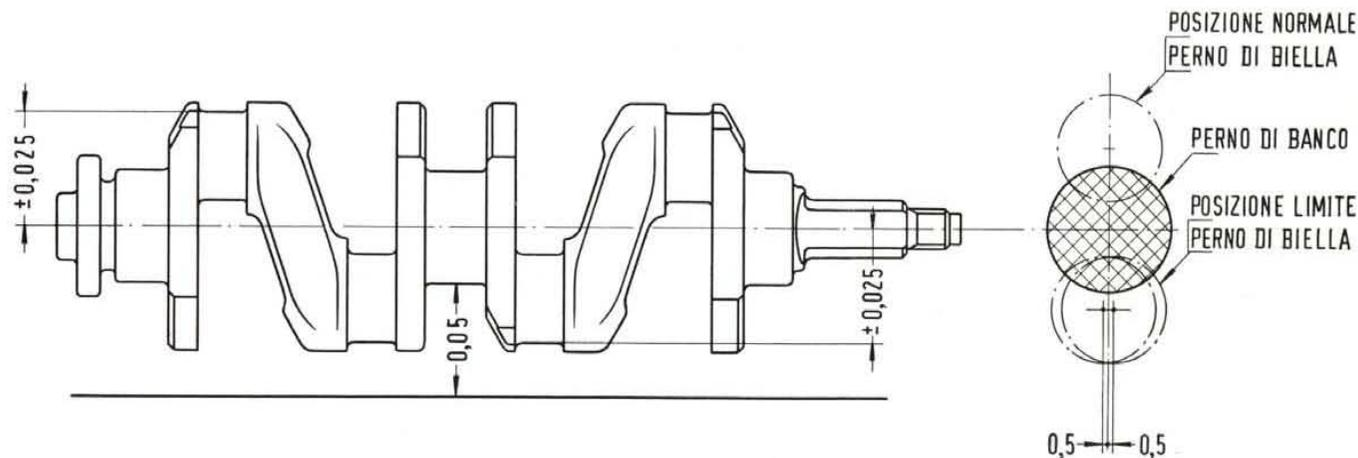

Fig. 73 - Allowances on alignment of main journals to crankpins.
- alignment of journals: max. out-of-true .002'' (0.05 mm) (total indicator reading) (fig. 73);
- alignment of crankpins: max. out-of-true to journals ± .020'' (0.5 mm) (fig. 73);